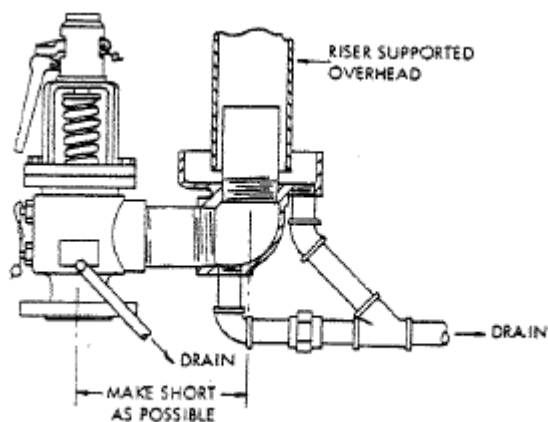

Figure 19, Typical Safety Valve Piping
15.2 Discharge pipes must not be rigidly connected to safety valves. Clearances should be provided to allow for expansion. A drip pan elbow installed similar to the illustration in Figure 19 will provide clearances and also prevent the accumulation of steam condensate from flooding the safety valve outlet and subsequently freezing or otherwise restricting flow. The drain must discharge to an open sewer. Do not connect to blowdown piping.